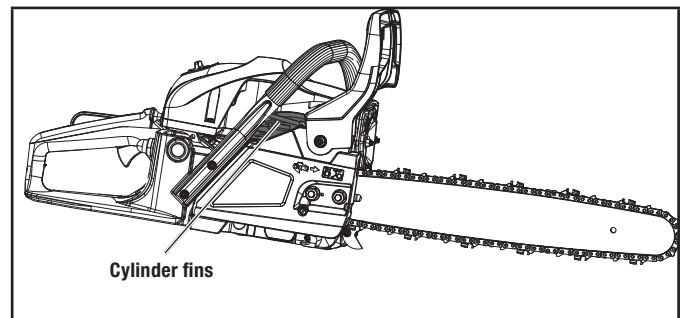

Figure 46
4. Use compressed air, up to 40 PSI, to blow debris from the cylinder fins (Fig. 46). The cylinder fins must be cleaned on a regular basis to reduce the risk of personal injury or damage to the chainsaw as a result of fire. Always use safety goggles/glasses when using compressed air. Do not use water or other liquids to clean the cylinder fins. Use a small wire brush to remove stubborn debris.